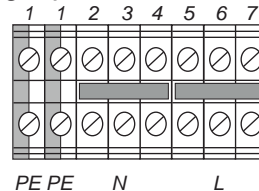

Figure 4-15 AC Input Terminal Block (1-phase)
- 1-phase 110VAC or 230VAC (Figure 4-15)